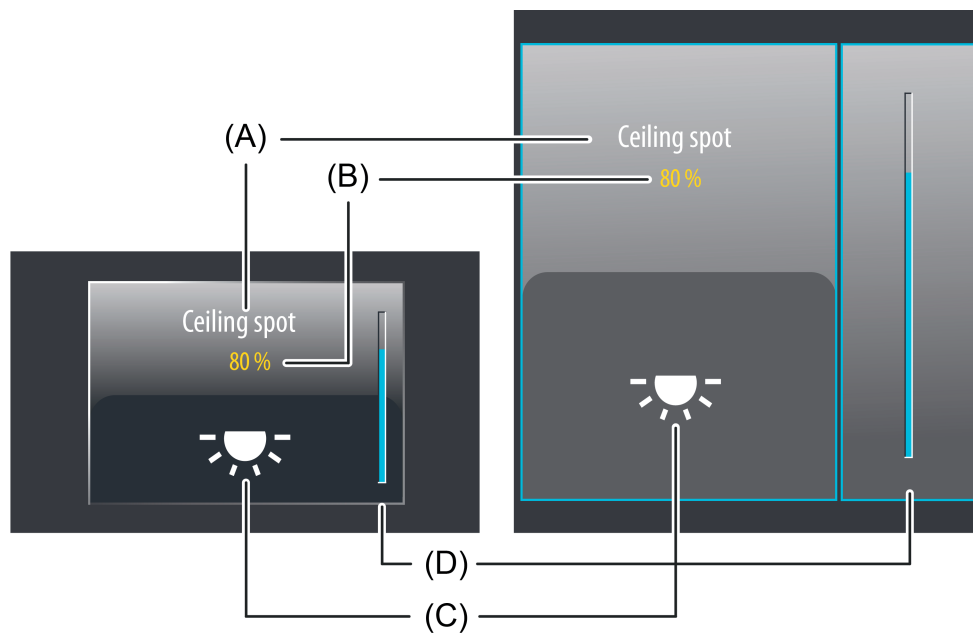

Figure 32: Example of an operating and display element of the function "Value transmitter" with a data format "1-byte 5.001...5.004"
The display area contains different display elements (figure 32) that are influenced by parameters. A name can be assigned to each KNX function in the configuration software (A). This text name is centred in the display element for display whereby controllable KNX functions are identified for the user (e.g. "ceiling spot", "external brightness"). In addition, a status value (B) can be displayed below the name, which either displays values in plain text ("0...255", "0...100%", "0...65535 lux") depending on the object value of the value feedback of an actuator or alternatively directly depending on the preset value of the operating element. The data format of this status value display is determined by the data type set in the configuration software and by the parameterised display format. After a device reset, the display shows "---" (supplemented by the unit) until a feedback object value of the status text is received or a value is specified. Similarly to the status value, a symbol (C) can be displayed in the lower display area. The icon displayed is defined in the configuration software. The character of the status icon changes with the dynamic icons depending on the feedback value thereby enabling the value status (e.g. brightness value or blind/shutter position) of the activated KNX function to be read clearly. Other icons not identified as dynamic behave statically and do not change their character depending on the received or preset values.